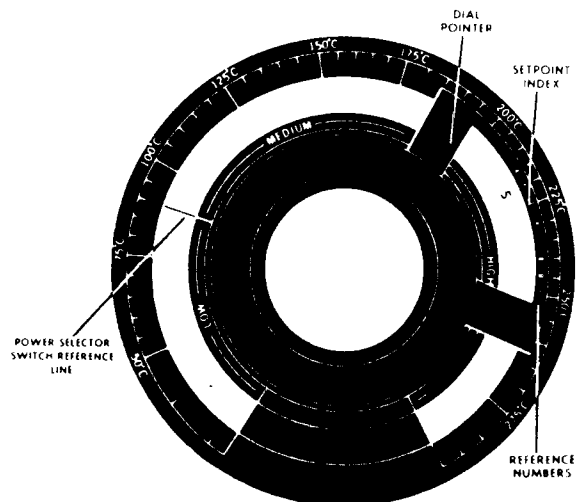

Figure 3
V. USING THE MEMORY RING DIAL® AND REFERENCE NUMBERS (See Figure 3)
- D. After unit has stabilized at +220° C., note which reference number lines up with +220° C. (In this example, assume number 5 lines up). See Figure 3.